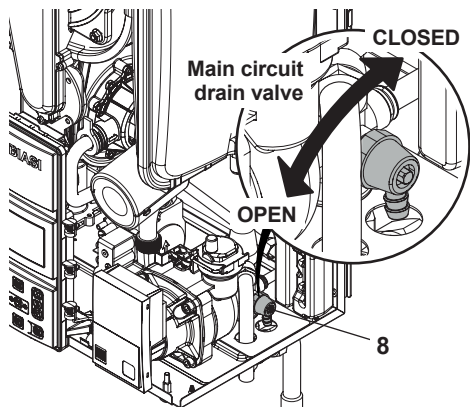

Fig. 10.10
- Loosen the central heating drain cock 8 indicated in Fig. 10.10.